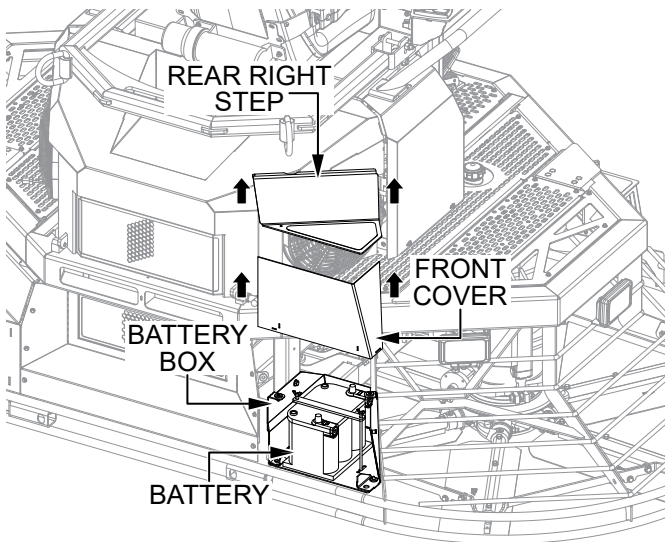

Figure 2. Access Battery
1. To access the battery, pull upward on the rear right step (Figure 2) to remove it. Set the step aside.
2. Remove the battery box front cover (Figure 2) and set it aside.